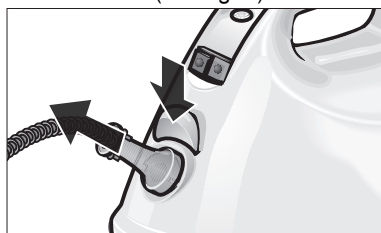

Fig. 2: Pull out the accessory plug
- Pull out the accessory plug by pressing the release button (see fig. 2).